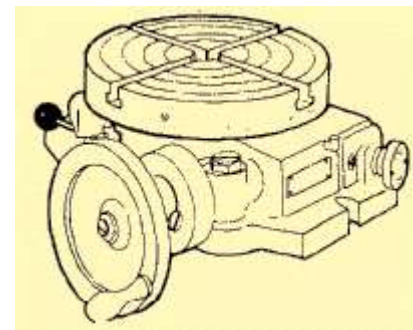

Figure 8-20. Rotary table.
**Rotary Table:** This attachment consists of a circular worktable **containing T-slots** for mounting workplaces. The circular table revolves on a base attached to the milling machine worktable. The attachment can be either hand or power driven, being connected to the table drive shaft if power driven. It may be used for milling circles, angular indexing, arcs, segments, circular slots, grooves, and radii, as well as for slotting internal and external gears. The table of the attachment is **divided in degrees**. (Figure 8-20).